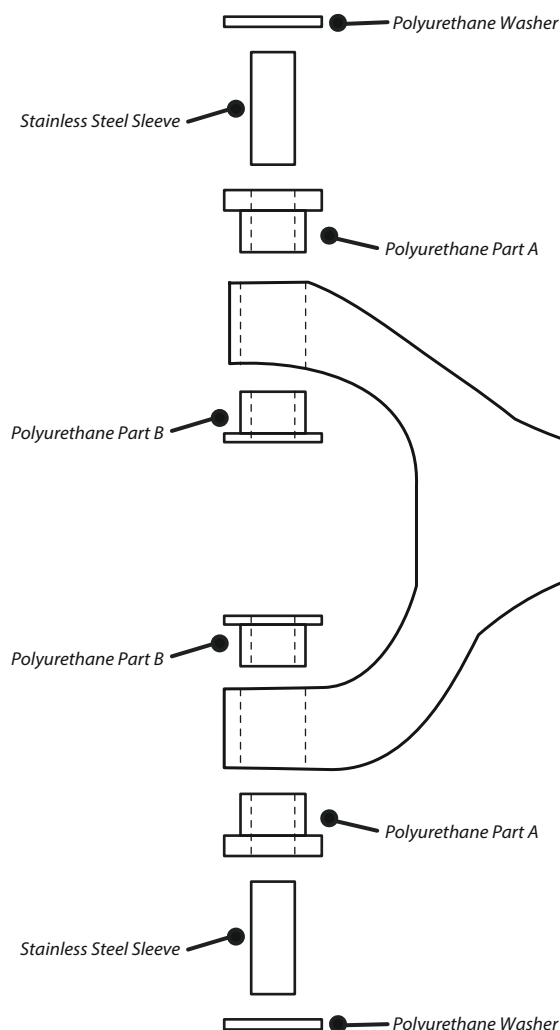

Figure 1
3. Push polyurethane part A, with the thicker top hat section, into the bore of the rear trailing arm from the outside of the arm, as shown in figure 1. The top hat section should sit on the surface of the arm.